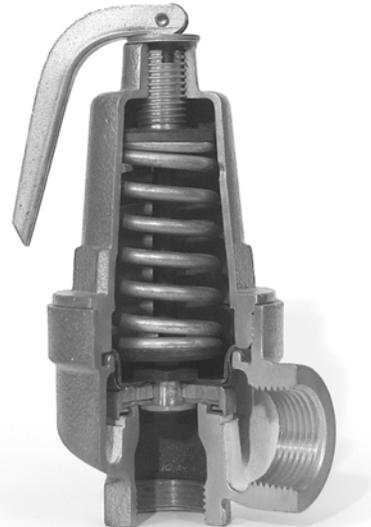

Figure 1-6: Safety Valve Cutaway
8. Safety Valve(s) (Figure 1-6 and 1-8): Prevent buildup over the design pressure of the pressure vessel. The size, rating and number of valves on a boiler is determined by the ASME Boiler Code. The safety valves and the discharge piping are to be installed to conform to the ASME code requirements. The installation of a valve is of primary importance to its service life. A valve must be mounted in a vertical position so that discharge piping and code-required drains can be properly piped to prevent buildup of back pressure and accumulation of foreign material around the valve seat area. Apply only a moderate amount of pipe compound to male threads and
8. Safety Valve(s) (Figure 1-6 and 1-8): Prevent buildup over the design pressure of the pressure vessel. The size, rating and number of valves on a boiler is determined by the ASME Boiler Code. The safety valves and the discharge piping are to be installed to conform to the ASME code requirements. The installation of a valve is of primary importance to its service life. A valve must be mounted in a vertical position so that discharge piping and code-required drains can be properly piped to prevent buildup of back pressure and accumulation of foreign material around the valve seat area. Apply only a moderate amount of pipe compound to male threads and avoid overtightening, which can distort the seats. Use only flat-jawed wrenches on the flats provided. When installing a flange-connected valve, use a new gasket and draw the mounting bolts down evenly. Do not install or